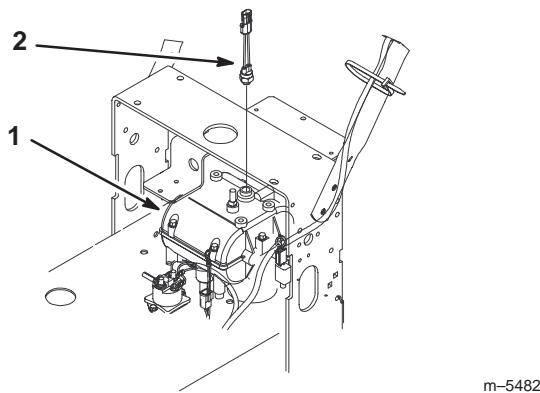

Figure 9
3. Remove the existing transmission switch (Figures 9 and 24).
4. Install new transmission switch into transmission (Figures 9 and 24).